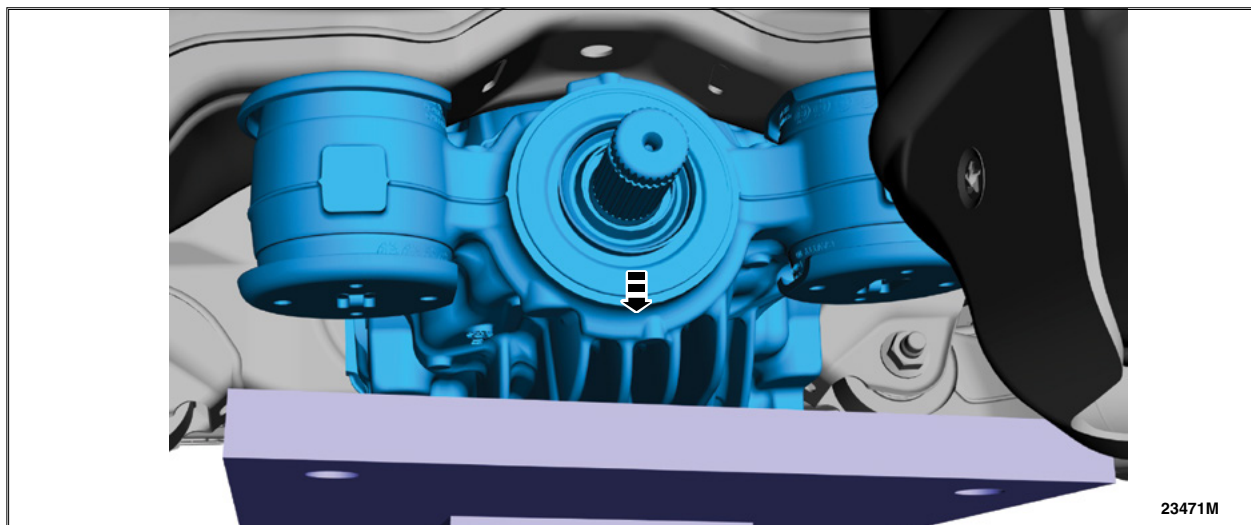

FIGURE 13
19. Gently lower down the transmission jack and remove the rear axle assembly. See Figure 13.